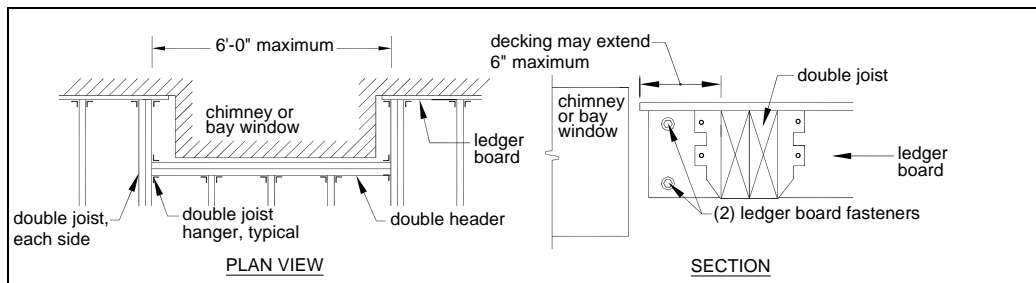

FIGURE 37: REQUIREMENTS FOR FRAMING AT CHIMNEY OR BAY WINDOW
All stairs with four (4) or more risers shall have a handrail on one side. See FIGURE 37. Handrails shall be graspable and shall be composed of decay-resistant and/or corrosion resistant material. The hand grip portion, if circular, shall be between 1-1/4" and 2" in diameter. Shapes other than circular shall have a perimeter dimension between 4" and 6-1/4" with a maximum cross sectional dimension of 2". All shapes shall have a smooth surface with no sharp corners. Handrails shall run continuously from a point directly over the lowest riser to a point directly over the highest riser and shall return to the guard at each end; see FIGURE 39. Handrails may be interrupted by guard posts only at a turn in the stair.